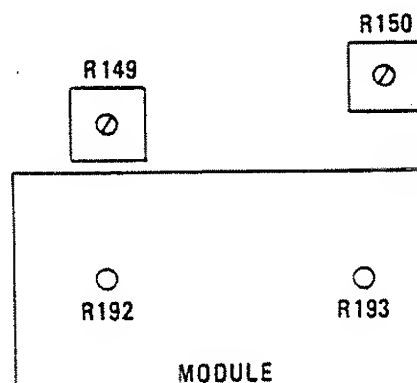

Fig. 6.3 Location of R149 and R192
- 28 First, set resistors R149 fully counterclockwise and R192 to its midposition. R192 is located inside the screened module (access holes provided) as shown in Fig 6.3.